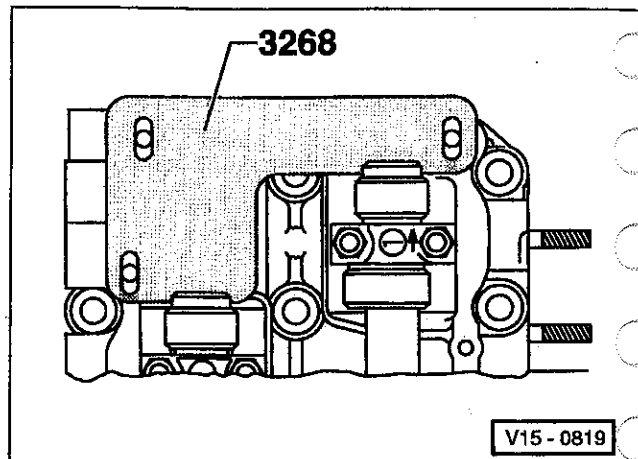

Fig. 10. VW special tool no. 3268 aligns camshafts at TDC. Tool engages slots in rear of camshafts.
A special alignment tool (VW special tool no. 3268) is specified for setting up valve timing during camshaft installation. The tool is relatively inexpensive and highly recommended. See Fig. 10 given later.
14. Position the camshafts so that the slots in the rear of the shafts accept the VW special tool no. 3268. See Fig. 10. Install the special tool and push it forward into the cutouts.